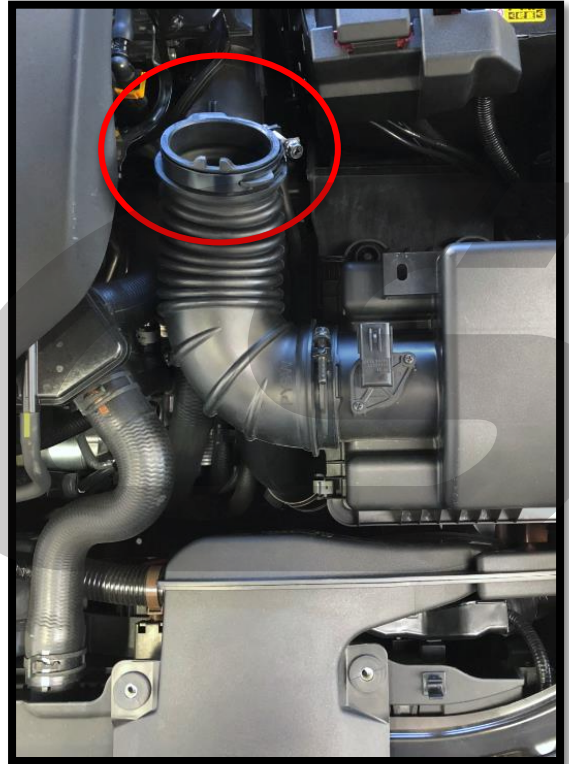

Figure 1e
- e) Pull the OEM intake tube off of the turbo inlet pipe. Pull from where the clamp was loosened in the previous step towards the front of the vehicle. Shown removed in **Figure 1e**.